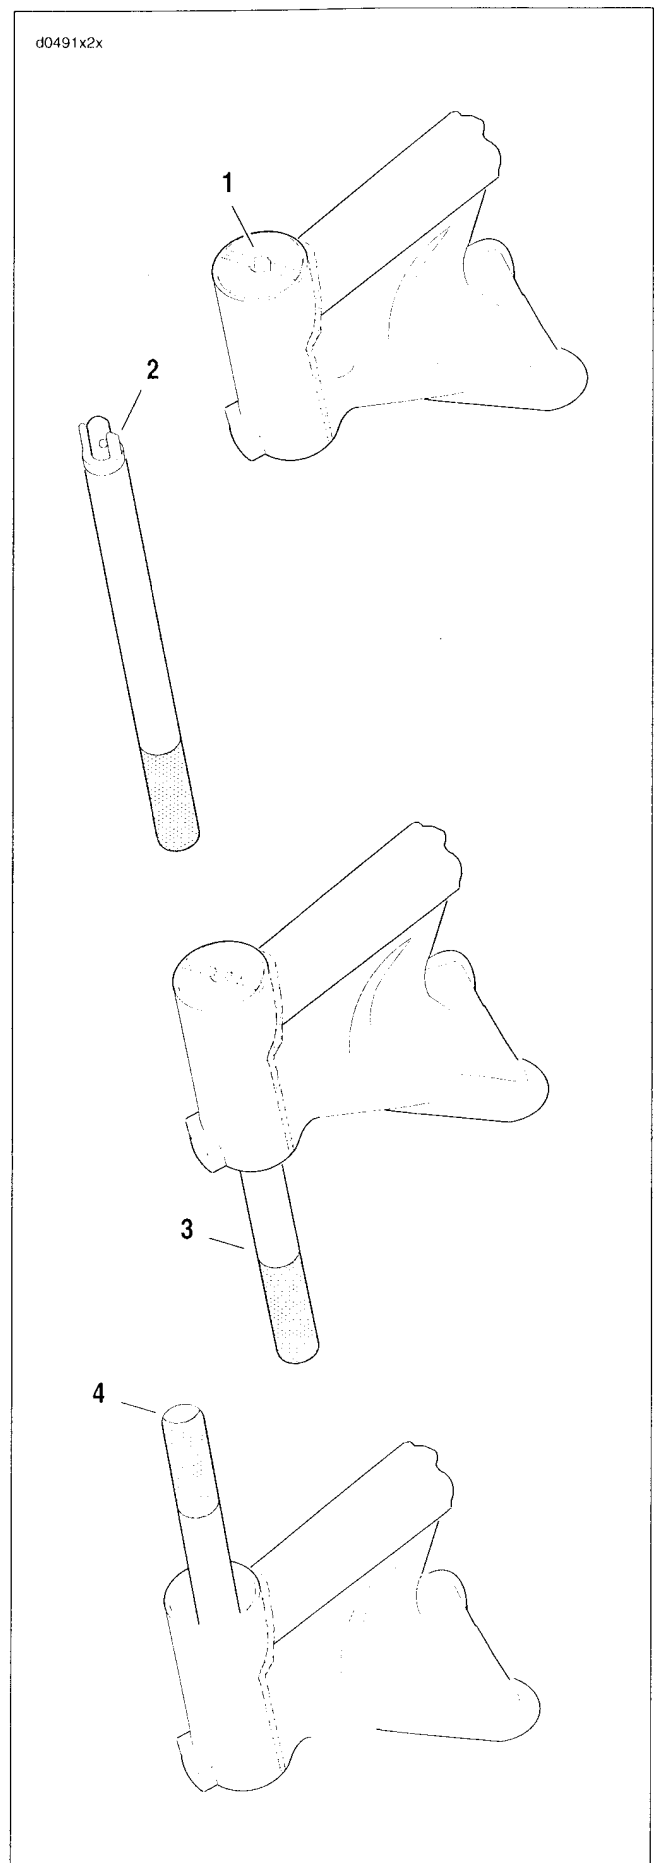

Figure 2-104. Remove Races
1. See Figure 2-104. With the tapered side down, seat the two-piece remover tool (1) on the upper bearing race leaving a gap in the middle.
2. Install the collet (2) on the driver.
3. Insert the driver at the bottom of the steering head tube, and while holding the remover tool on the race, center the collet in the gap (3). Tap the driver to remove the upper race.
4. Reverse the tool and repeat the procedure (4) to remove the lower bearing race.